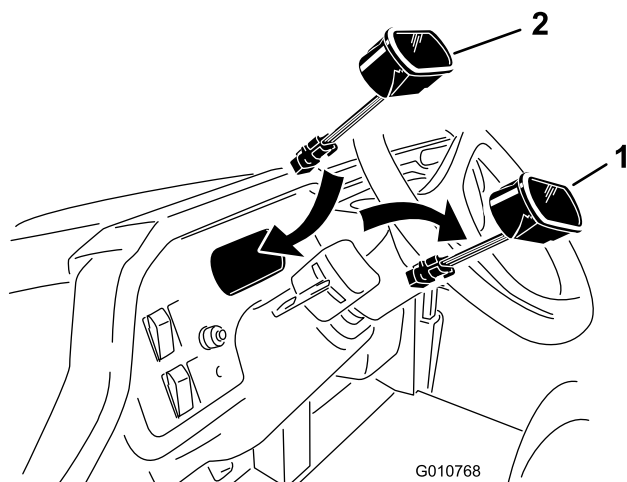

Figure 1
4. Unplug the wire harness connector from the instrument cluster (Figure 1).
6. Snap the new instrument cluster into the dash opening and plug the harness connectors together (Figure 1).